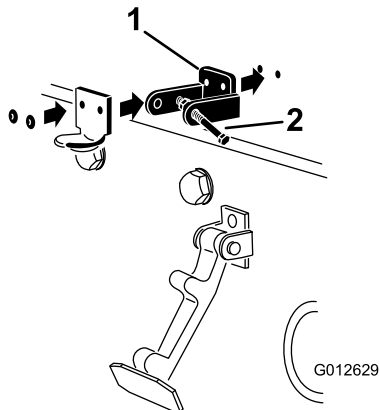

Figure 6
4. While aligning the mounting holes, position the lock bracket and the hood-latch bracket onto the hood (Figure 6).
6. Rivet the brackets and the washers to the hood (Figure 6).